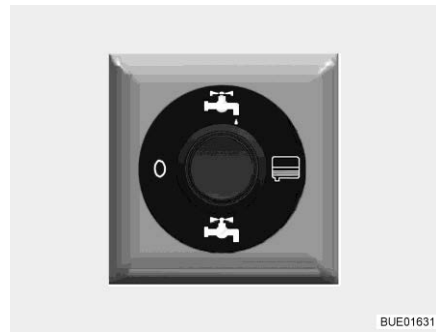

Fig. 199 Operating switch for electrically operated drainage valve (partially special equipment)
- Press the operating switch (Fig. 199) at the top. The waste water is drained.
- Once all the waste water has drained completely, press the operating switch (Fig. 199) at the bottom.
- Set the operating switch (Fig. 199) to the "0" position (power off).